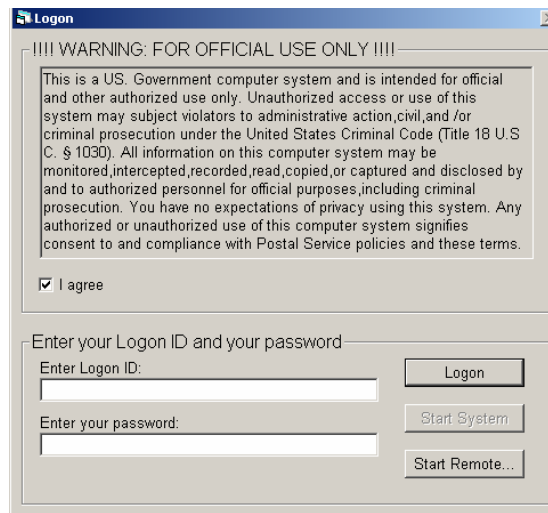

Figure 1-269. Logon Window
44. The Logon window is displayed (Figure 1-269). Mark the **I agree** checkbox.